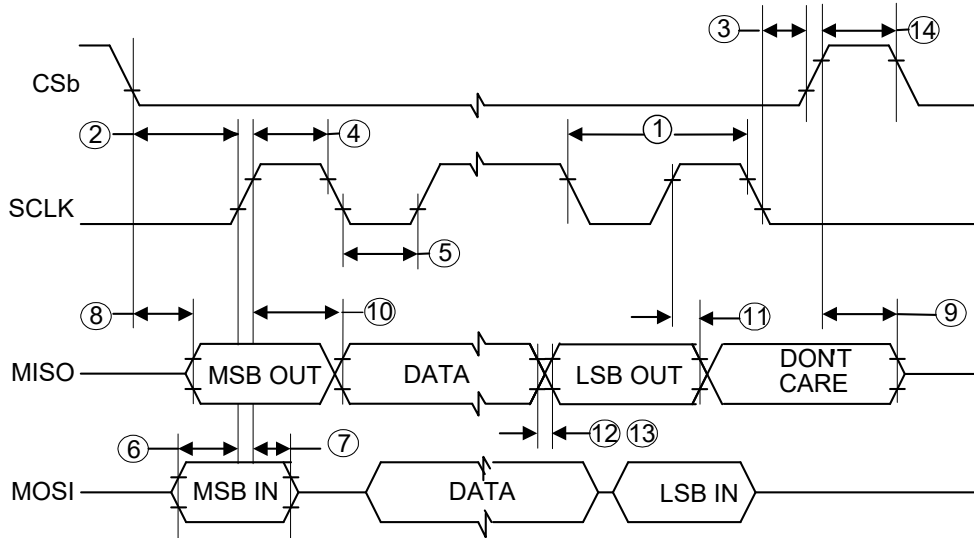

Figure 8. SPI timing diagram
| t_{SCK} | SCLK Period • Figure 8 - 1 | 160 | — | — | ns | |
| t_{LEAD} | Enable Lead Time • Figure 8 - 2 | 140 | — | — | ns | |
| t_{LAG} | Enable Lag Time • Figure 8 - 3 | 50 | — | — | ns | |
| t_{SCKHS} | SCLK High Time • Figure 8 - 4 | 56 | — | — | ns | |
| t_{SCKLS} | SCLK Low Time • Figure 8 - 5 | 56 | — | — | ns | |
| t_{SUS} | MOSI Input Setup Time • Figure 8 - 6 | 16 | — | — | ns | |
| t_{HS} | MOSI Input Hold Time • Figure 8 - 7 | 20 | — | — | ns | |
| t_A | MISO Access Time • Figure 8 - 8 | — | — | 116 | ns | |
| t_{DIS} | MISO Disable Time ⁽²⁵⁾ • Figure 8 - 9 | — | — | 100 | ns | |
| t_{VS} | MISO Output Valid Time • Figure 8 - 10 | — | — | 116 | ns | |
| t_{HO} | MISO Output Hold Time (No cap on MISO) • Figure 8 - 11 | 20 | — | — | ns | |
| t_{RO} | Rise Time • Figure 8 - 12 | — | — | 30 | ns | (25) |
| t_{FO} | Fall Time • Figure 8 - 13 | — | — | 30 | ns | (25) |
| t_{CSN} | CS_B Negated Time • Figure 8 - 14 | 500 | — | — | ns | |